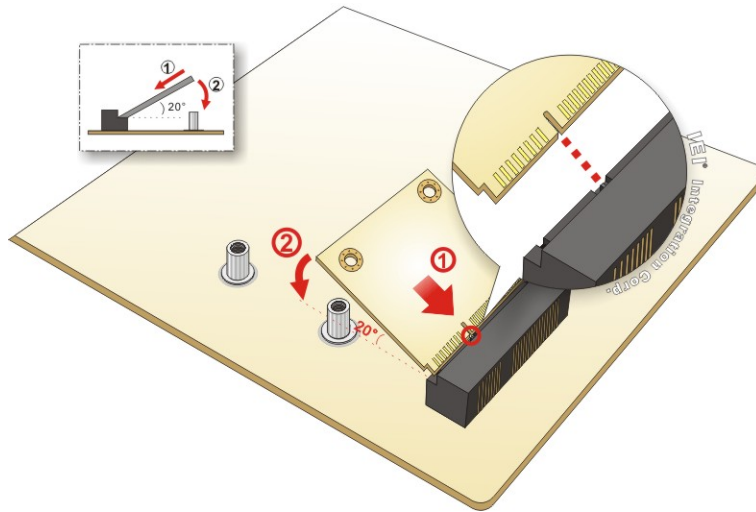

Figure 3-16: Inserting the Half-size PCIe Mini Card into the Slot at an Angle
Step 2: Line up the notch on the card with the notch on the slot. Slide the PCIe Mini card into the socket at an angle of about 20° (**Figure 3-16**).